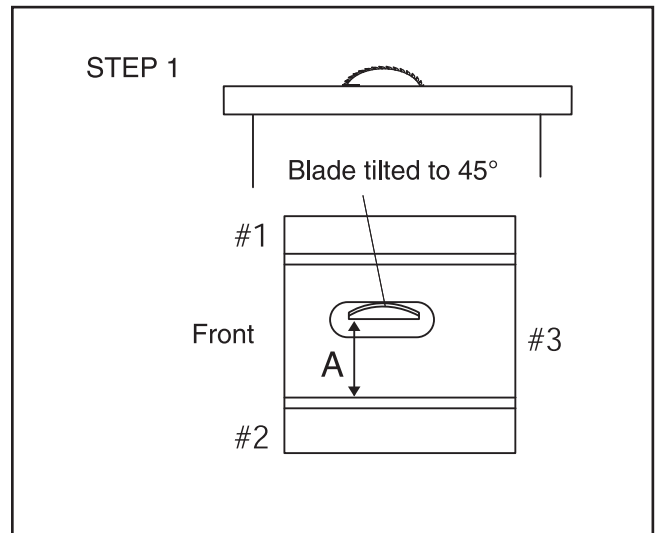

Figure 78. Shim procedure diagram A.
10. Refer to **Figures 78 and 79** for shim placement. If the distance of A is shorter than B, shim(s) will need to be placed under corners #1 and #2. If the distance of B is shorter than A, shim(s) will need to be placed under corner #3. Very thin shim stock works well.